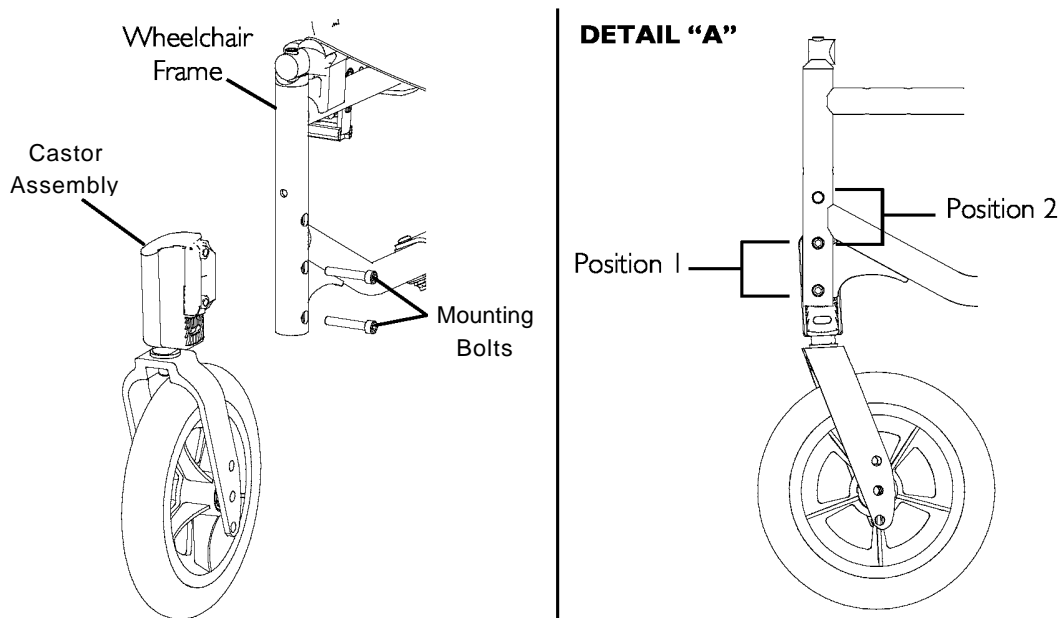

FIGURE 5.11 Adjusting Castor Assembly Position
NOTE: For this procedure, refer to FIGURE 5.11.
2. Move the castor assembly to one of two positions. Refer to Detail “A” of FIGURE 5.11.